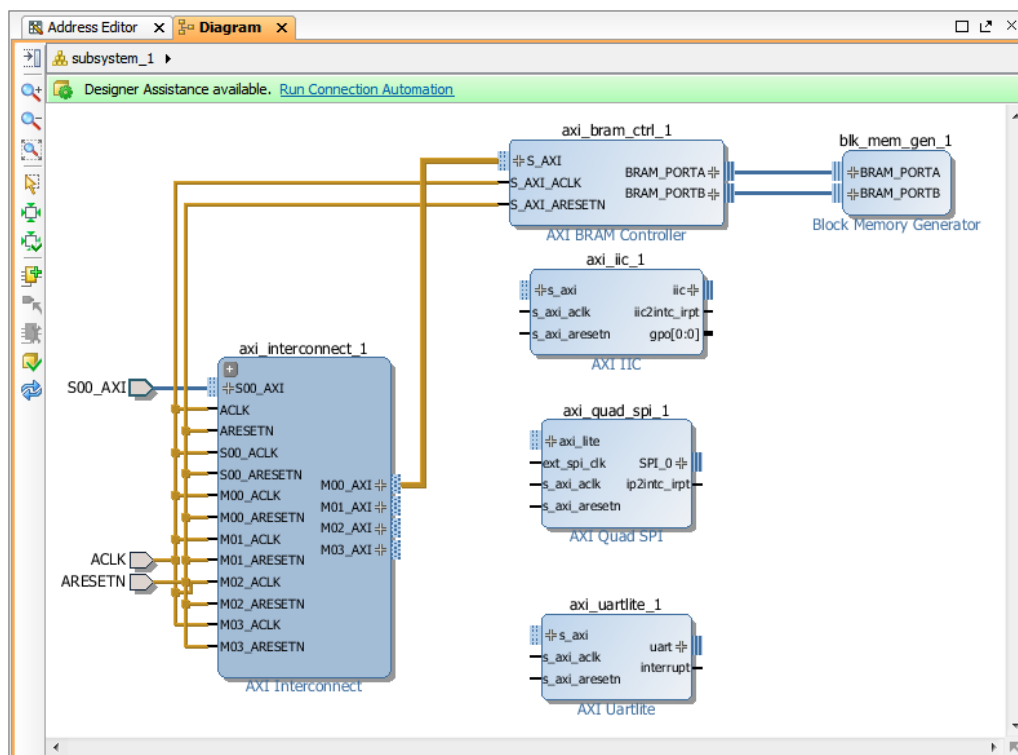

Figure 24: Connect the AXI BRAM Controller to the AXI Interconnect
11. **Connect** the **S_AXI** interface of the AXI BRAM Controller **to M00_AXI** interface of the AXI Interconnect, as shown in Figure 24.